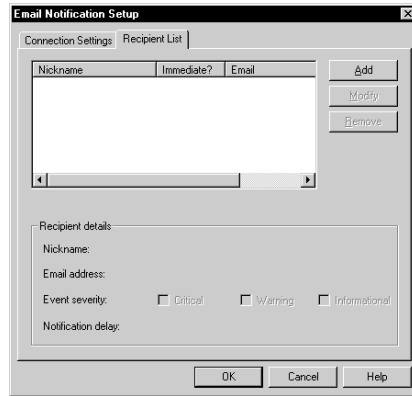

Figure 3-7. Recipient List Dialog Box
- 3 Click on the Recipient List tab to display the Recipient dialog box as shown in Figure 3-7.